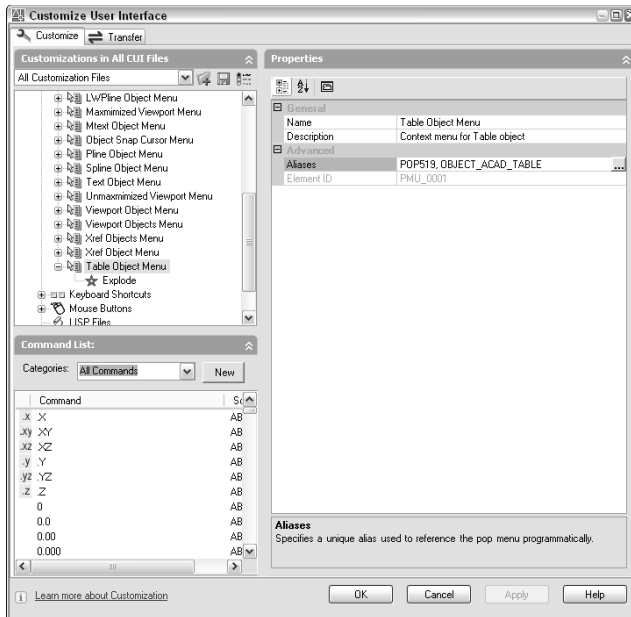

Figure 33-15: The Table Object Menu, a shortcut menu, has two aliases and one command.
6. Click the Aliases text box and then click the Ellipsis button on the right. In the Aliases dialog box, click at the end of the current alias, and press Enter to start a new line. Type **OBJECT_ACAD_TABLE**. Click OK. Your Customize User Interface dialog box should look like Figure 33-15.